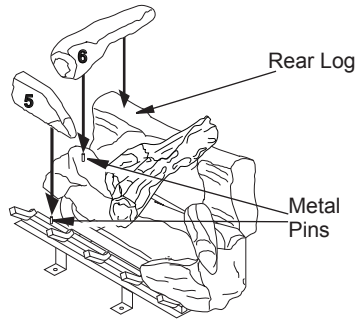

Figure 45 - Installing Logs No. 5 and No. 6
- Place log #5 (base log) onto front left part of grate making sure log fits over metal pin of grate. See Figure 45.
- Place log #6 (left log) onto pin on left side of front log, the rear part of log rests over the log no. 1 (See Figure 45).